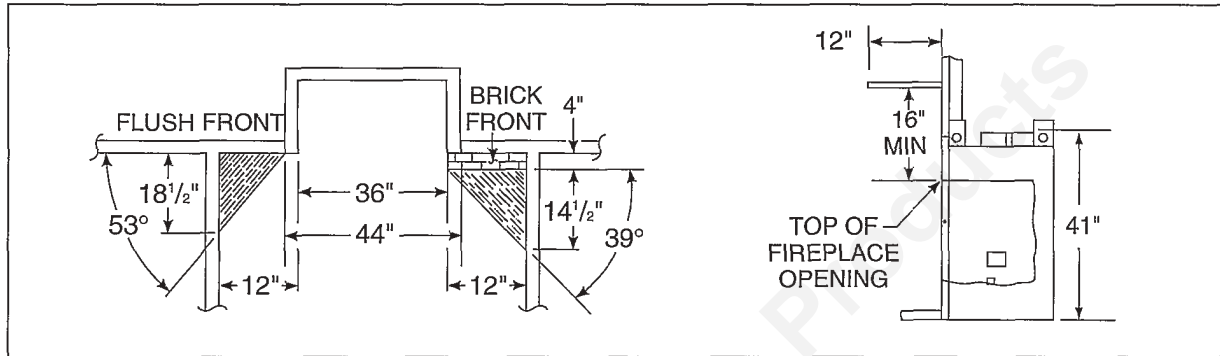

Figure 7
Adjacent combustible side walls must be located a minimum of 12" from the fireplace opening. See Figure 7. If you are using a decorative surround constructed of combustible material, it must be located
within the shaded area defined in Figure 7. Short stub walls are also acceptable if they are contained within the shaded area.
from the top and side of the firebox opening, except when they fall within the shaded area as defined in Figure 7. This mantel clearance is in accordance with Section 7-3.3.3 of ANSI/NFPA 211.
2. Subtract the height of the firebox assembly from the overall height of the fireplace installation. See Figure 7 (page 11).